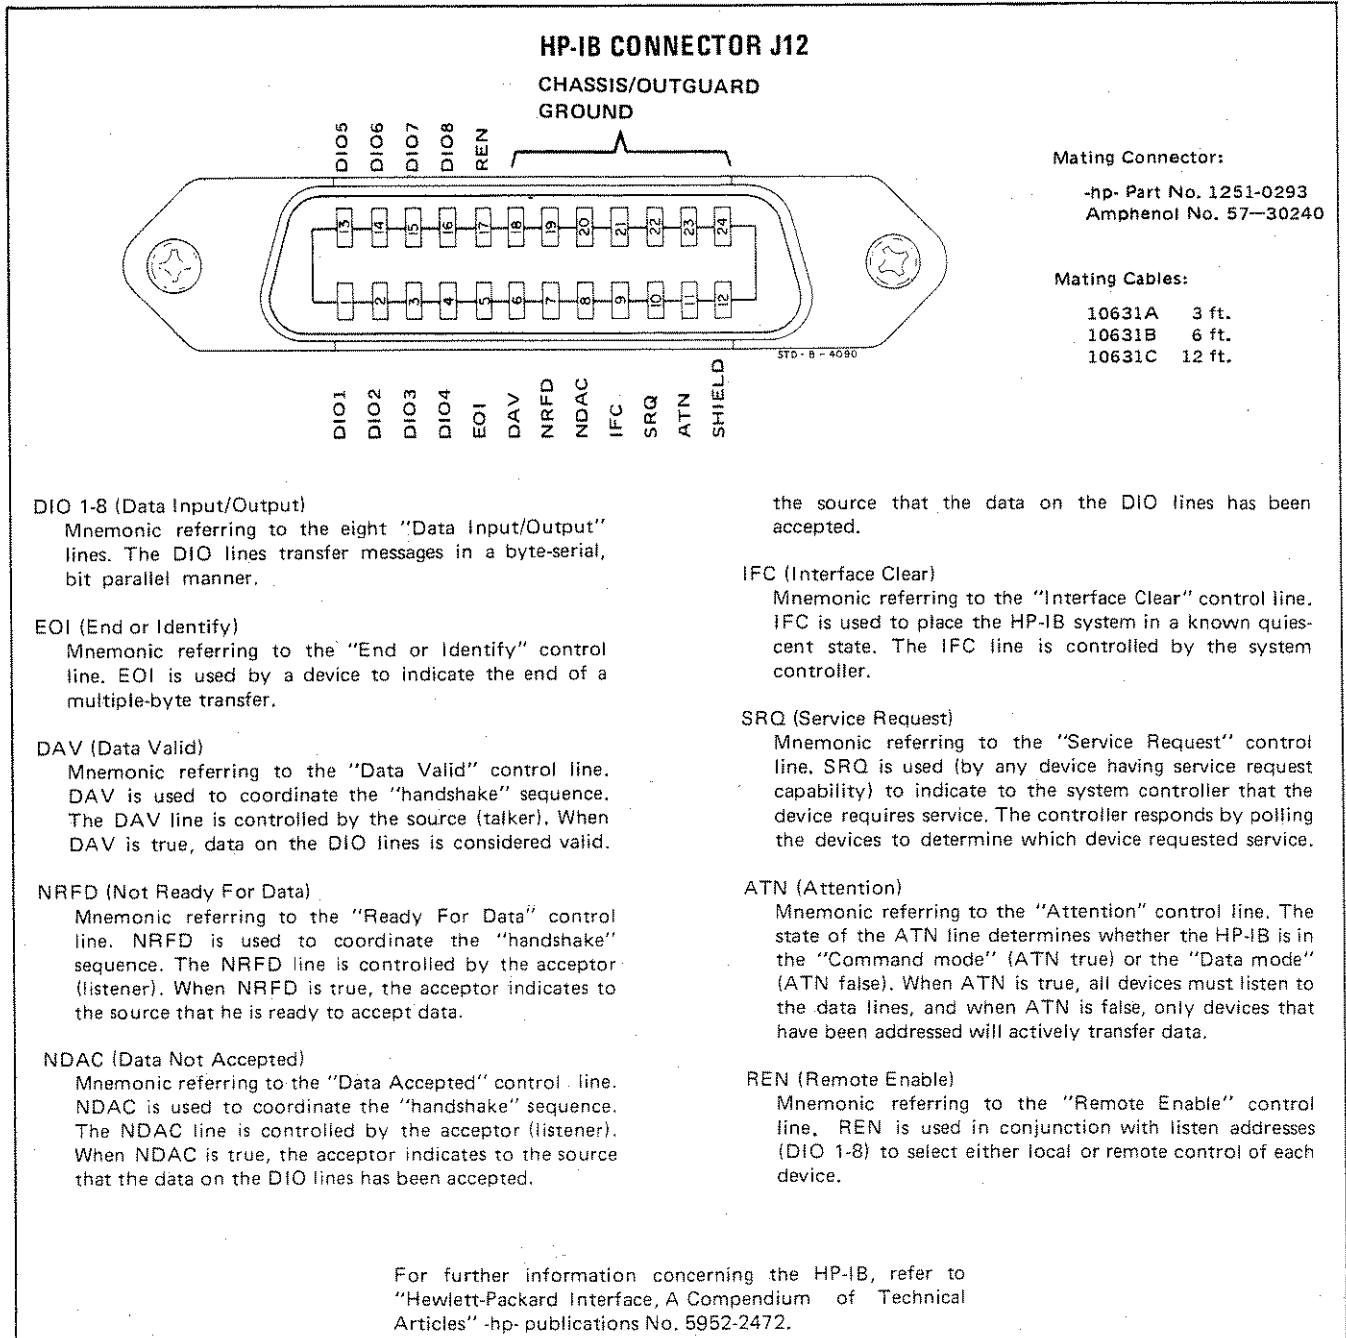

Figure 2-3. Hewlett-Packard Interface Bus Connector.
**2-25. Hewlett-Packard Interface Bus (HP-IB).** Figure 2-3 illustrates the rear panel HP-IB connector, along with a brief description of each signal line.